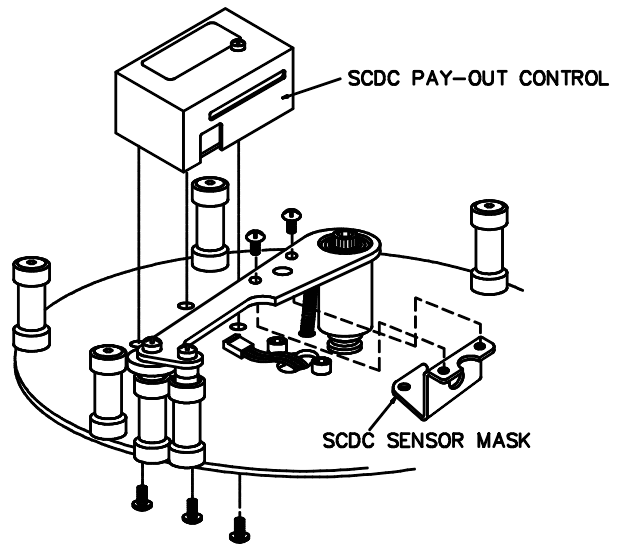

Figure 1
4. Install the SCDC Control and plug the wiring harness into the control. Mount the control with the three PPH 4-40 X 1/4" screws provided (see Fig.1). Make sure the spring retainer is secured by one screw.
5. Carefully install the SCDC Sensor Mask in the slot of the SCDC Pay-Out Control. Secure the mask to the arm using the PTH 8-32 x 3/8" screws provided. Make sure the mask is flush with the bottom side of the arm before installing screws to avoid damaging the threads. Do not over tighten the screws (see Fig. 1).